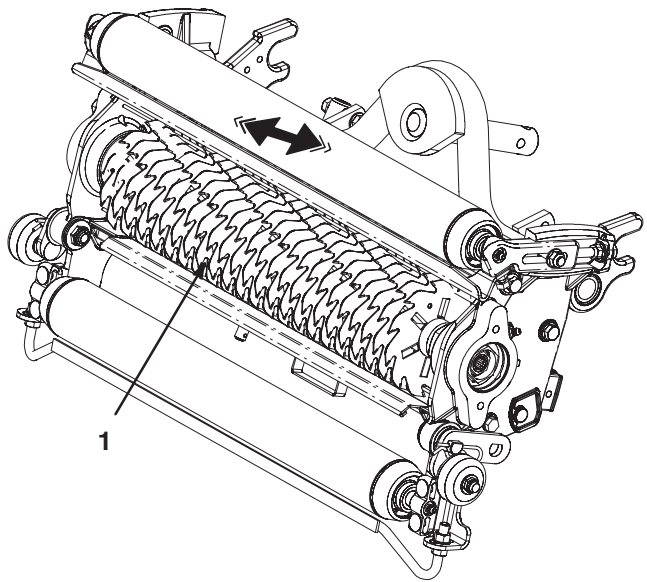

Figure 9
1. Hold on to the reel shaft and try to move the reel assembly side to side (Fig. 9).